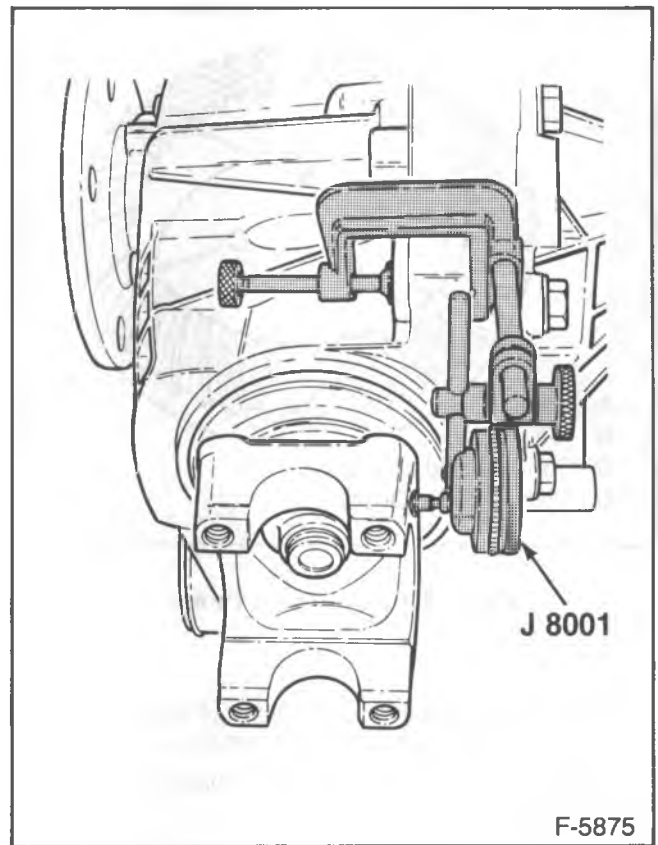

Figure 32—Measuring Backlash at the Pinion Flange
3. Install a dial indicator so the button contacts the outer edge of the pinion flange. The plunger must be at a right angle to the pinion flange (figure 32).